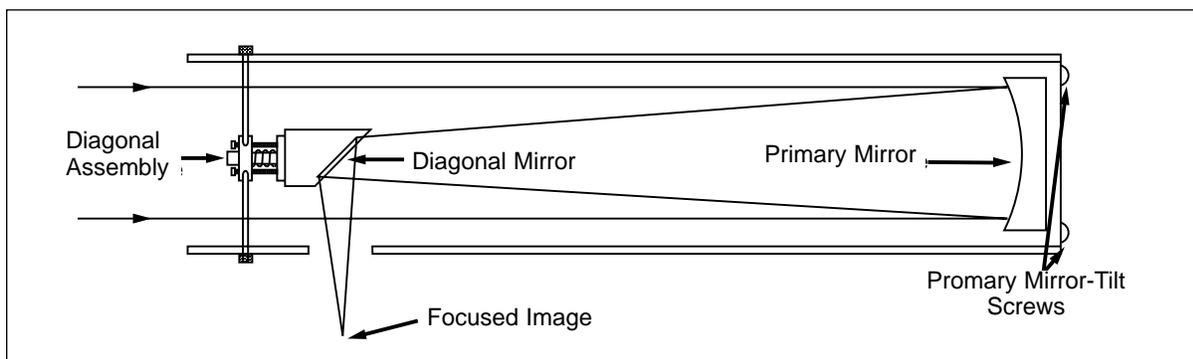
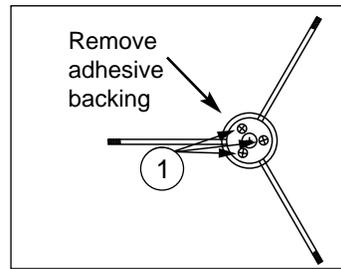
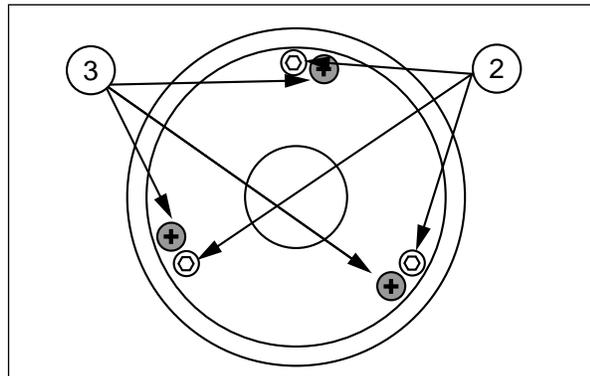

Fig. 4: The Newtonian Reflecting Telescope.
Fig. 5: Diagonal Assembly.
Fig. 6: Primary Mirror Cell.
The properly collimated (aligned) mirror system in the Jupiter 114 EQ-D assures the sharpest images possible. This occurs when the primary mirror and diagonal mirror are tilted so that the focused image (see Fig. 4) falls directly through the center of the focuser drawtube (17, Fig. 1). These mirror tilt adjustments are made with the diagonal assembly (Fig. 5) and the primary mirror cell (Fig. 6), and will be discussed later.
If the diagonal mirror (1, Fig. 8) is centered in the drawtube (2, Fig. 8), but the primary mirror is only partially visible in the reflection (3, Fig. 8), the 3 Phillips-head diagonal tilt screws (1, Fig. 5. Note: To adjust these screws you must first remove an adhesive backing) must be unthreaded slightly to the point of where you can tilt the diagonal holder (3, Fig. 5) from side-to-side by grasping the diagonal holder with your hand and tilt until you see the primary mirror become as centered in the reflection of the diagonal mirror as possible. Once you are at the best position, thread in the 3 Phillips-head diagonal tilt screws to lock the rotational position. Then, if necessary, make adjustments to these 3 Phillips-head screws to refine the tilt-angle of the diagonal mirror until the entire primary mirror can be seen centered within the diagonal mirror reflection. When the diagonal mirror is correctly aligned, it will look like Fig. 9. (Note: the primary mirror is shown out of alignment.)
If the diagonal mirror (1, Fig. 9) and the reflection of the primary mirror (2, Fig. 9) appear centered within the drawtube (3, Fig. 9), but the reflection of your eye and the reflection of the diagonal mirror (4, Fig. 9) appear off-center, you will need to adjust the primary mirror tilt Phillips-head screws of the primary mirror cell (3, Fig. 6). These primary tilt screws are located behind the primary mirror, at the lower end of the main tube. See Fig. 4. To adjust the primary mirror tilt screws, first unscrew several turns, the 3 hex-head primary mirror cell locking screws (2, Fig.6) that are next to each primary mirror tilt Phillips-head screw. Then by trial-and-error, turn the primary mirror tilt Phillips-head screws (3, Fig. 6) until you develop a feel for which way to turn each screw to center the reflection of your eye. Once centered, as in Fig. 7, turn the 3 hex-head primary mirror cell locking screws (2, Fig. 6) to relock the tilt-angle adjustment.
- If the out-of-focus star disk appears elongated (Fig. 10A), you will need to adjust the primary mirror Phillips-head tilt screws of the primary mirror cell (3, Fig. 6).
- To adjust the primary mirror tilt screws (3, Fig. 6), first unscrew several turns the 3 hex-head primary mirror cell locking screws (2, Fig. 6), to allow free turning movement of the tilt knobs.
- As you make adjustments to the primary mirror tilt screws (**3, Fig. 6**), you will notice that the out-of-focus star disk image will move across the eyepiece field. Choose one of the 3 primary mirror tilt screws and slightly move the shadow to the center of the disk. Then slightly move the telescope using the flexible cable controls to center the star disk image in the center of the eyepiece.
- With the star testing of the collimation complete, tighten the 3 hex-head primary mirror locking screws (**2, Fig. 6**).